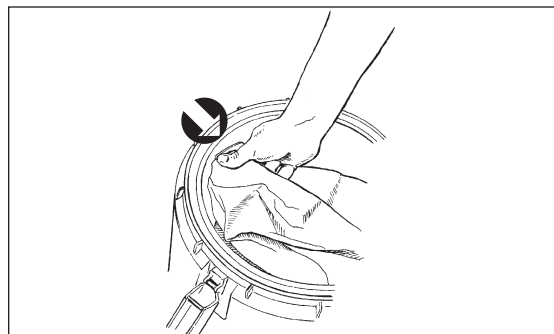

Figure 10
8. An optional disposable paper bag is available. If you wish to use the paper bag, remove the vacuum head and install a paper dust control bag by inserting the deflector on the vacuum into the mounting shoe of the paper bag. To ensure the bag is properly seated on the deflector, the rubber seal should rest in the groove of the deflector (See Figure 10). NOTE: Check the paper bag for proper seating after transport to avoid dust in the vacuum tank.